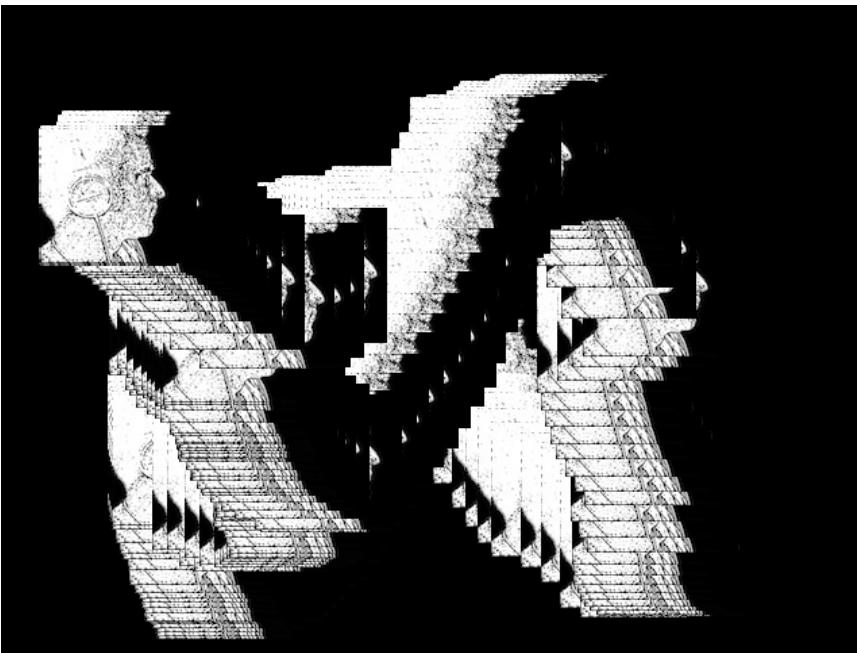

Figure 2-22. If we don't clear the background to black when moving an image around, the result will be a smoky mess.
- ③ The one other detail worth noting here is this. This clears the whole sketch to black. If we didn't do that, we'd end up seeing trails of our image as we moved it around. Remember, Processing always just draws on top of whatever is already there. If we don't clear our sketch to black, we'll end up constantly displaying our image on top of old copies of itself in slightly different positions. This will make a smoky mess (or a cool psychedelic effect depending on your taste). Figure 2-22 shows what my version of the sketch looks like without that line. And Figure 2-23 shows what it looks like with the line back in.